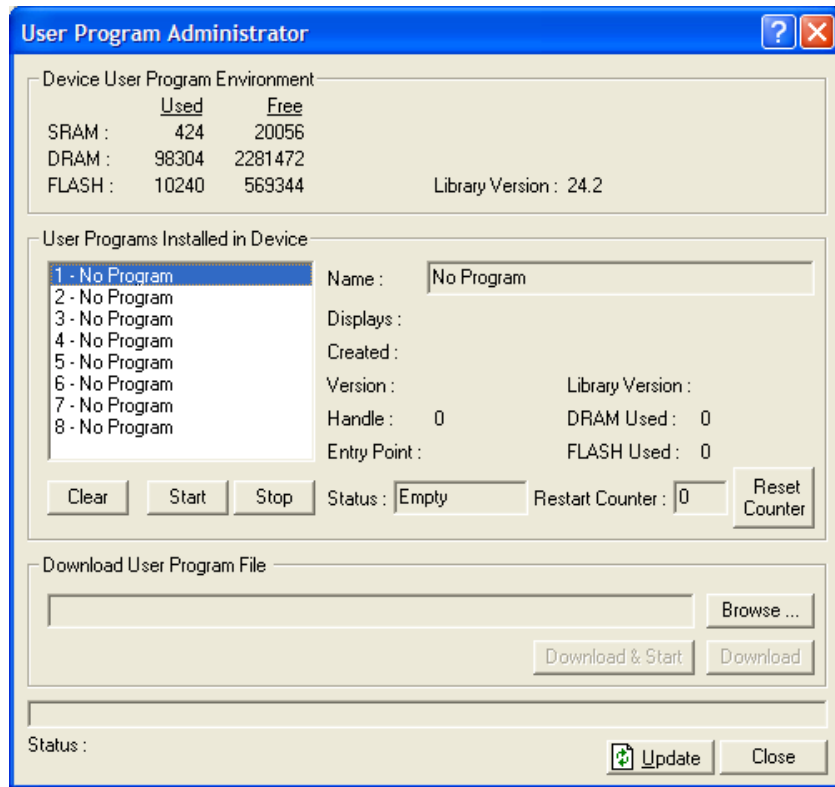

Figure 5. User Program Administrator
5. Click **Browse** in the Download User Program File frame. The Select User Program File screen displays (see Figure 5).
6. Select the path and user program file to download from the CD-ROM. (Program files are typically located in the Program Files folder on the CD-ROM). As Figure 5 shows, the screen lists all valid user program files with the .TAR extension: